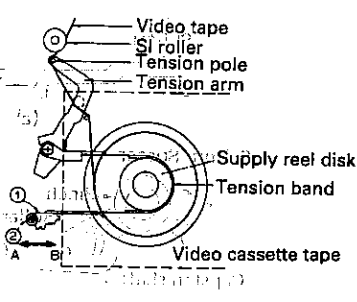

Figure 15.
1. When the position of the tension pole is less than 1.25 mm to the left of the center of the SI roller, move the tension band adjustment angle ① in the direction of the arrow B in figure 15 and tighten the screw.
2. When the position of the tension pole is more than 1 mm to the left of the center of the SI roller, move the tension band adjustment angle ① in the direction of the arrow A in figure 15 and tighten the screw.